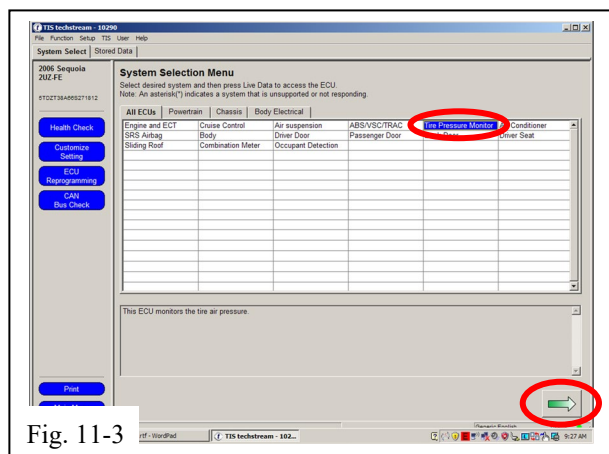

Fig. 11-3
- (f) Select “Tire Pressure Monitor” then click the green arrow located on the bottom right (Fig. 11-3).